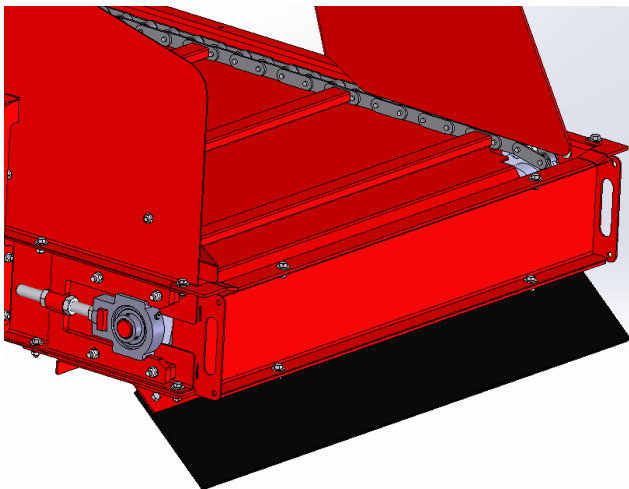

Figure 16: Install the LH end shield
- i. Place the assembled end shield onto the left end of the conveyor, as per Figure 16.